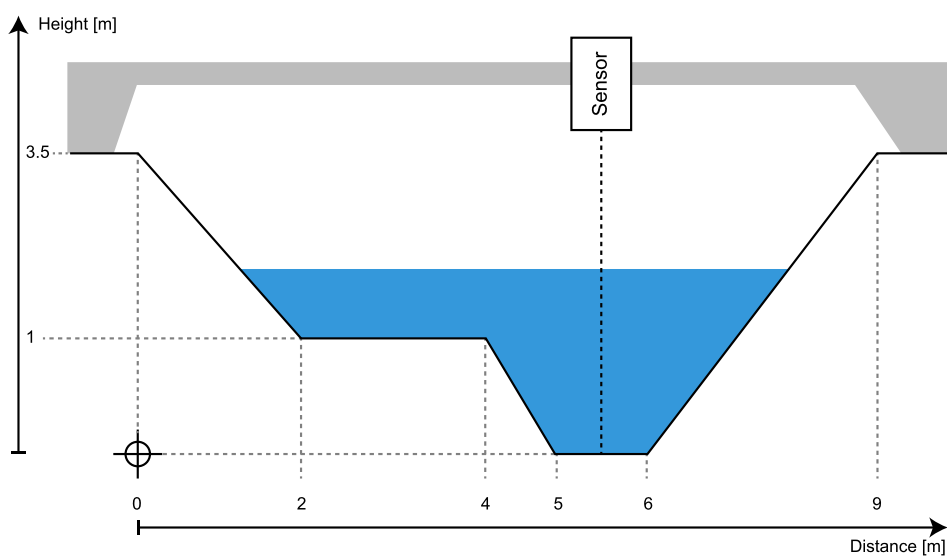

Figure 12 Cross-Sectional profile with height relative to bottom
- height relative to bottom with positive values upwards, see Figure 12